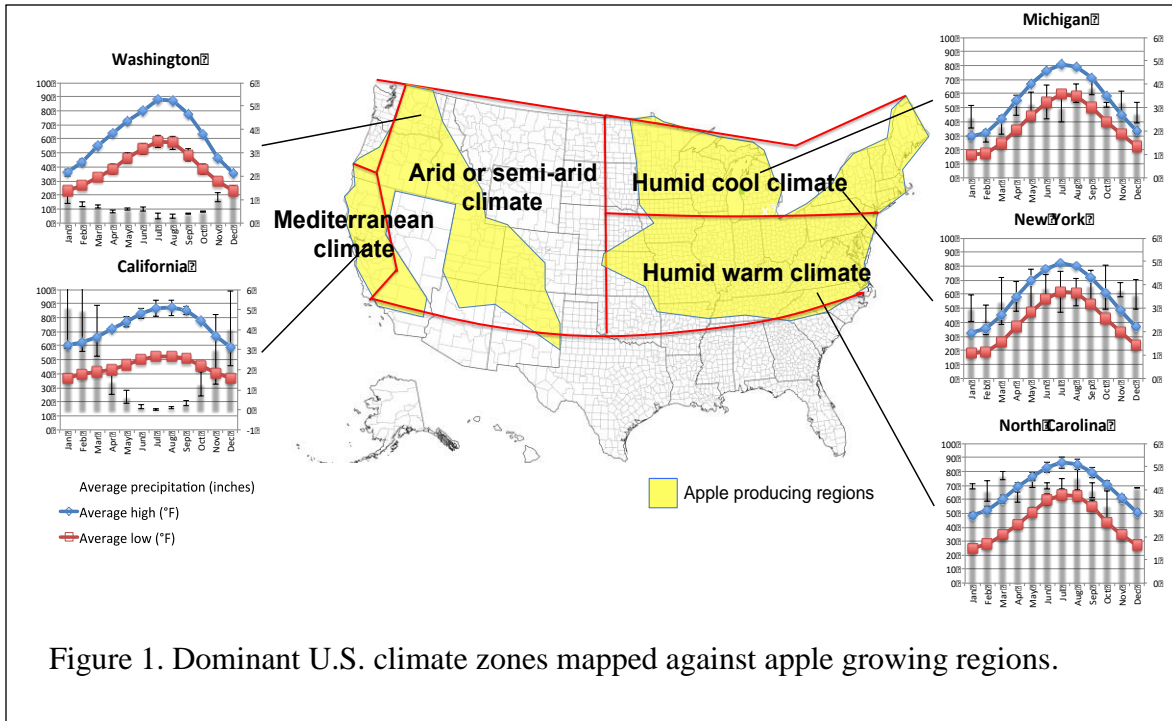

Figure 1. Dominant U.S. climate zones mapped against apple growing regions.
The most appropriate nozzles were found to be 02 and 03 nozzles because 015 nozzles were too small and the resulting small droplet size increased the risk of drift and lowered the capacity (rows per hour). Best coverage results were at 75 psi with the nozzles 4-8 inches above the target. See Figure 1.
1. Apple growing regions in the U.S. differ by their precipitation patterns (Figure 1). Over 60% of the apples and 80% of organic apples were produced in the Pacific Northwest regions under the semi-arid conditions (NASS 2014). The humid climate conditions in Eastern United States added on additional challenges in controlling various diseases of apples.